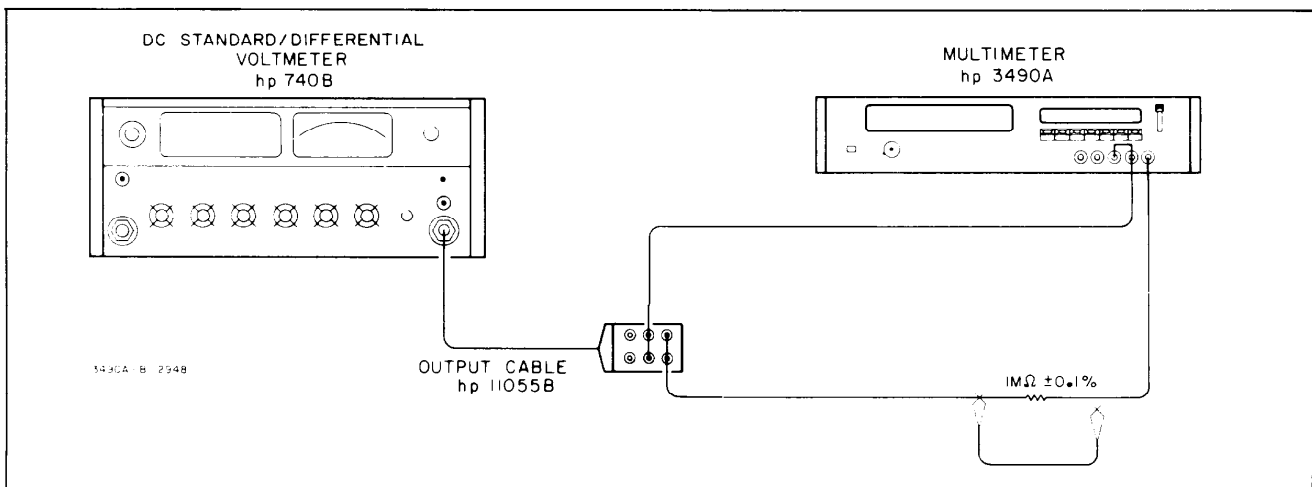

Figure 5-5. DC Voltmeter Input Resistance Test.
a. Connect 3490A, dc standard and resistor as shown in Figure 5-5.